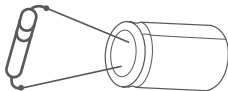

Figure 3.1
3. Safely discharge the capacitor by touching both ends of the capacitor to a resistor or a piece of metal. [Figure 3.1]